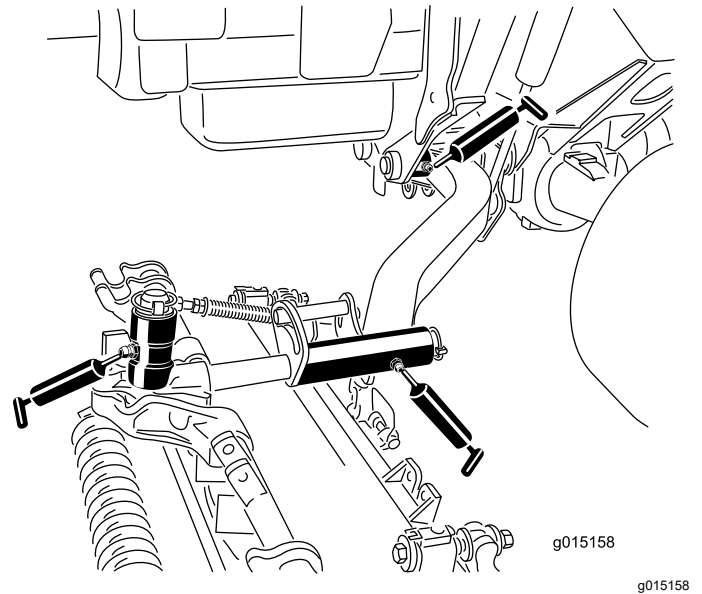

Figure 68
- Lift arm pivot bushings (1 per cutting unit) (Figure 68)
- Cutting unit carrier frame (2 per cutting unit) (Figure 68)
- Cutting unit lift arm pivot (1 per cutting unit) (Figure 68)